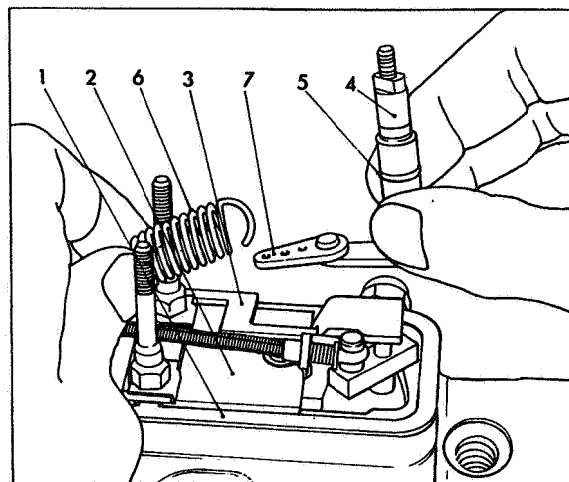
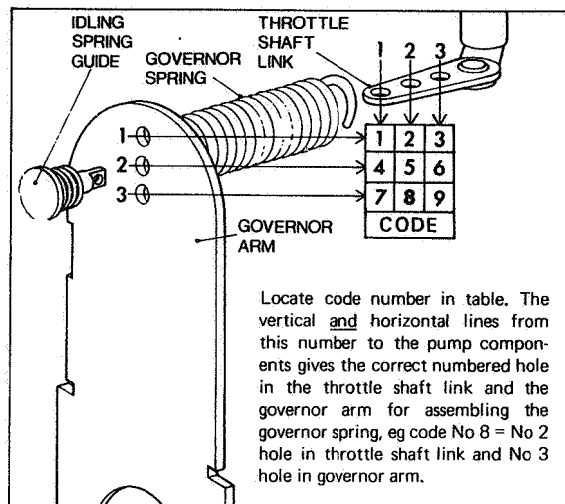

Fig 30 Assembling throttle link
Fig 31 Application of setting code
Position housing gasket (1) Fig 30 on the governor housing face with the gasket tongues placed in the slots of the control bracket (2). Slide the shut-off bar (3) into the cut-out in the control bracket. Fit Protection Cap Part No 7144-459A to the end of the throttle shaft (4) and assemble new shaft seals (5). Place the idling spring onto the idling spring guide and insert into the correct hole in the governor arm. Attach the governor spring (6) to the idling spring guide and to the correct hole in the throttle shaft link (7) as stated in the Test Data or Code. The application of the setting code details is given in Fig 31.